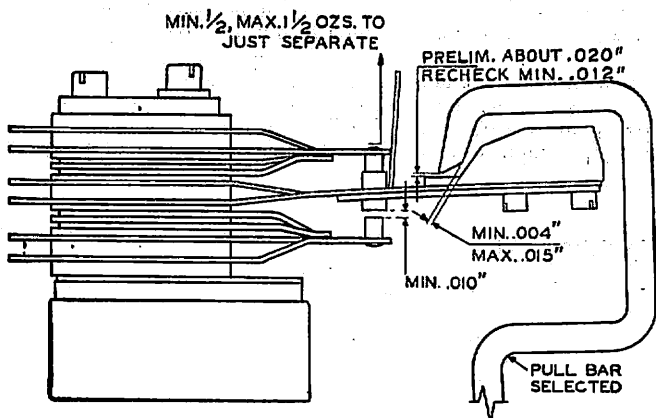
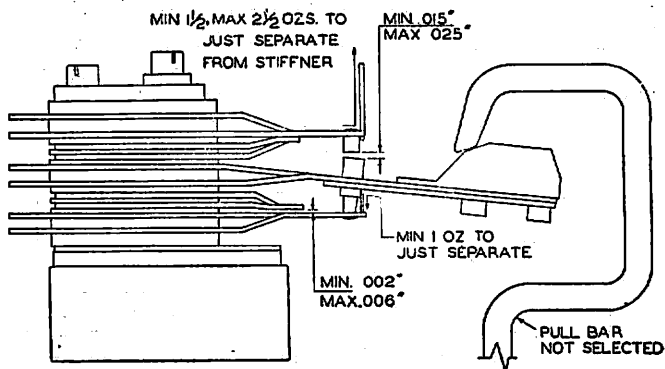

Fig. 56
Fig. 57
(c) Pullbar contact assemblies shall be centrally located with respect to the pullbars; and the toes of contact hooks of all selected pullbars, except those which are not opposite the pullbar stripper, shall clear the sloping surfaces of the contact spring insulators by min. .004", max. .015", as in Fig. 56 when play is taken up by pressing lightly on the pullbars to make this clearance a minimum. Under the same conditions the clearance in the case of the pullbars which are out of range of the stripper shall be min. .035", max. .050".
(d) Upper contact gap shall be min. .015", max. .025" as in Fig. 57 when associated pullbar is not selected and resting on the No. 1 code bar.
(e) Upper contact spring shall require min. 1-1/2 ozs., max. 2-1/2 ozs. to start it moving away from its stiffener measured as in Fig. 57 with upper contact open.
(f) Middle contact spring contact shall bear on upper contact spring contact by min. 1/2 oz., max. 1-1/2 ozs., and the flat surface of its insulator shall clear the pullbar hook tip, preliminary adjustment—about .020", recheck adjustment—min. .012", when the associated pullbar is fully selected. See Fig. 56.
(1) To adjust, bend middle contact spring with 98055M tool, bend near pileup insulators to increase or decrease contact pressure and bend near contact to meet latter requirement. Then recheck 4.95 (d) and (e).
(g) Lower contact spring shall clear the stiffener by min. .002", max. .006" when associated pullbar is not selected and rests on the No. 1 code bar as shown in Fig. 57 and described in 4.95 (d) (1) and lower contact gap shall be min. .010" when pullbar is fully selected as in Fig. 56.
(1) To adjust, bend lower contact stiffener with 98055M tool.
(a) To check, remove tape reel and gear guard, hold main bail roller away from cam by pressing upon lid of oil cup at top of the main bail plunger, block magnet armature in its operated position so that main clutch will not engage, hook scale into screw hole as in Fig. 57 and pull in the direction reverse to normal rotation until cam just starts to move.